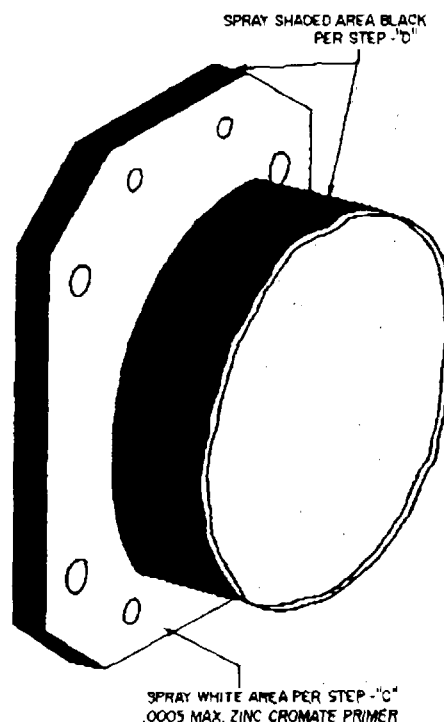

Figure 1. Cylinder Flange Area
c. Spray a very light coat of zinc chromate primer (.0005 max. thickness) on the cylinder flange (figure 1). If the correct amount of paint has been applied the color of the paint will be green with a yellowish tint and the metal will show through. If the paint is too thick the color will be a zinc chromate yellow.
d. Mask off the flange area shown in figure 1 and proceed to paint the cylinder with a black phthalate resin type paint, properly thinned with Toluol or equivalent. Avoid paint "pockets" or "runs".